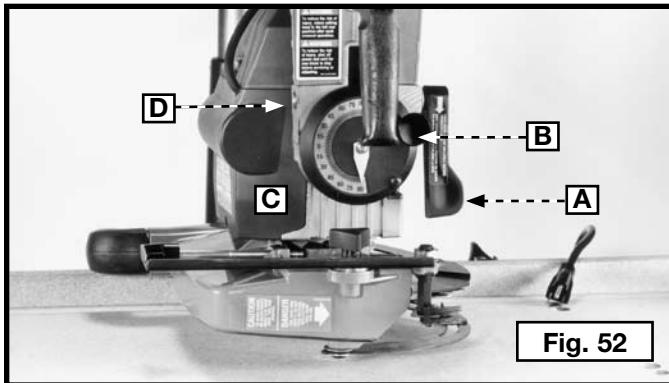

Fig. 52
1. Loosen the bevel clamp handle (A) Fig. 52, release the bevel index release knob (B), and turn the motor (C) to the vertical position.
2. Loosen the bevel clamp handle (A) Fig. 52 several turns until the hex head of the screw (D) can be pushed out of hex-shaped recess in yoke.
3. Turn the screw (D) Fig. 52 one or two flats of the hex head in the direction the handle needs to be turned. Push it back into hex-shaped recess in yoke.
4. Tighten the bevel clamp handle (A) Fig. 52.